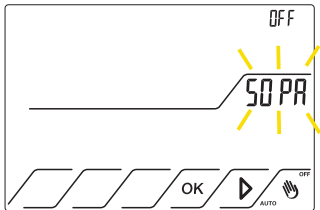

Fig.45
11.4.2 Press  up to position on **SO PA** that it will flash. The status is OFF. Fig.45